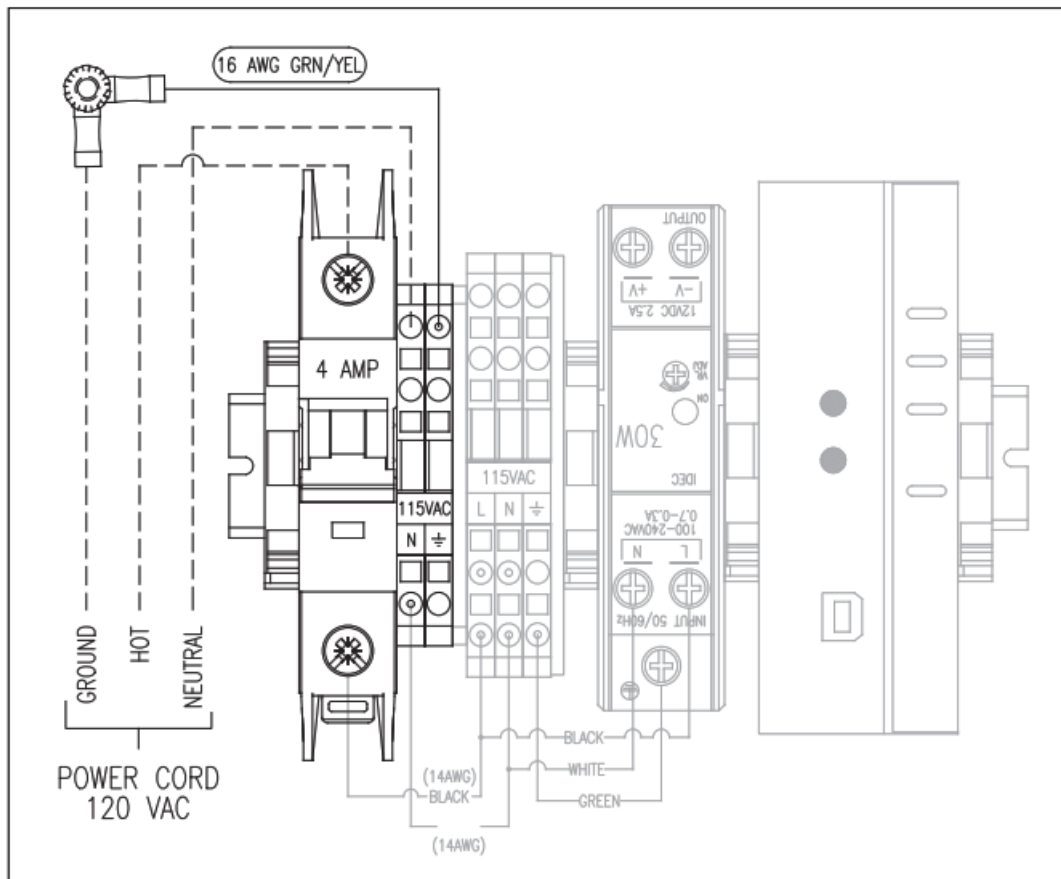

Figure 2-5. AC Power Wiring
3. Connect the other two wires as illustrated in Figure 2-5.